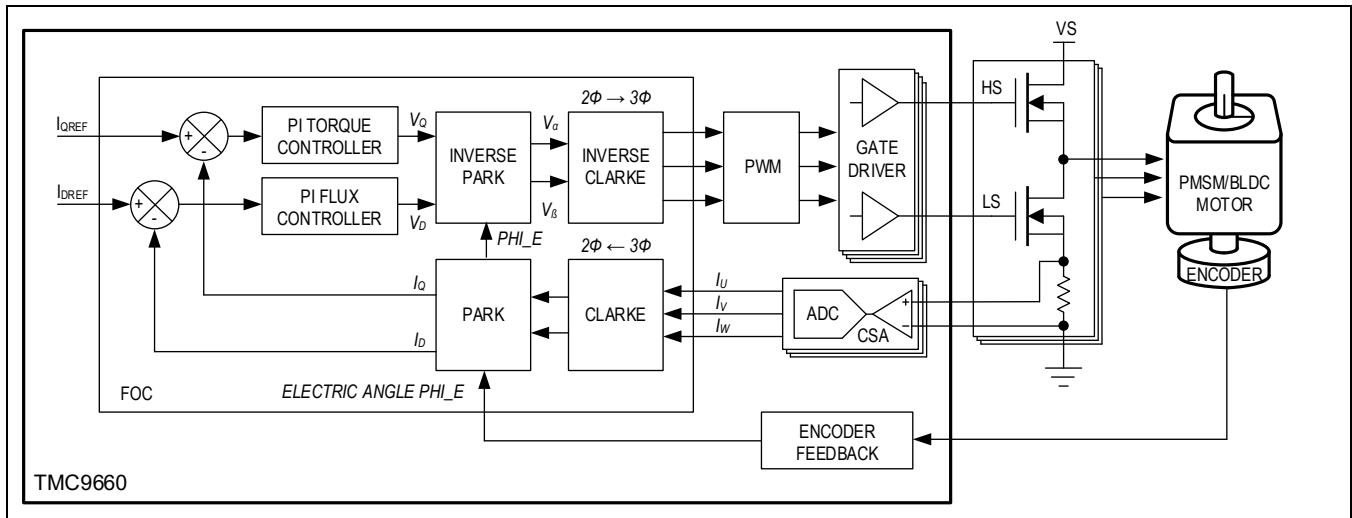

Figure 15. Field-Oriented Current Controller (FOC)
Field-oriented control/FOC—also referred to as vector control—belongs to the class of variable frequency drive (VFD) control method for brushless motors with coil windings in the stator. With the help of the rotor position angle, the motor currents through the stator coil windings are transformed into two linear time-invariant orthogonal components (vectors) for torque ( $I_Q$ ) and magnetic flux ( $I_D$ ) (Figure 15). This transformation allows using standard proportional-integral (PI) controllers and a control architecture already well-known from DC motors. The outputs of the controllers are transformed back to voltage levels and converted to PWM signals for driving the half bridges—one for each motor coil connection.